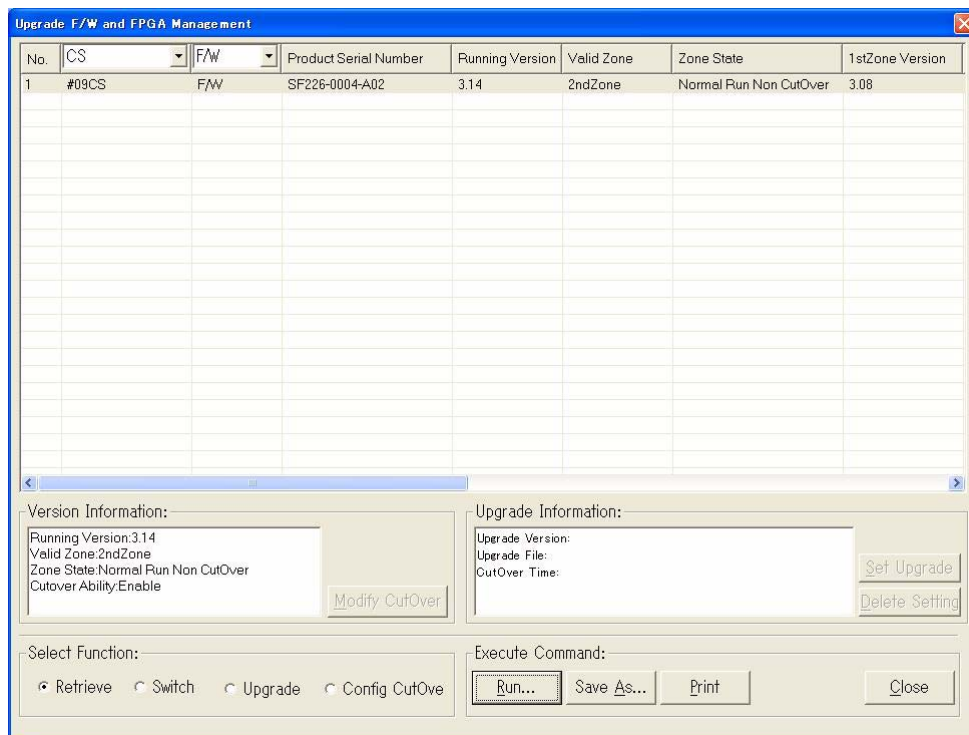

Fig. 4-10-11 Upgrade F/W and FPGA Dialog Box
- 4 Select **Upgrade F/W and FPGA** from the **Maintenance** menu. The **Upgrade F/W and FPGA** dialog box shown in *Fig. 4-10-11* appears: